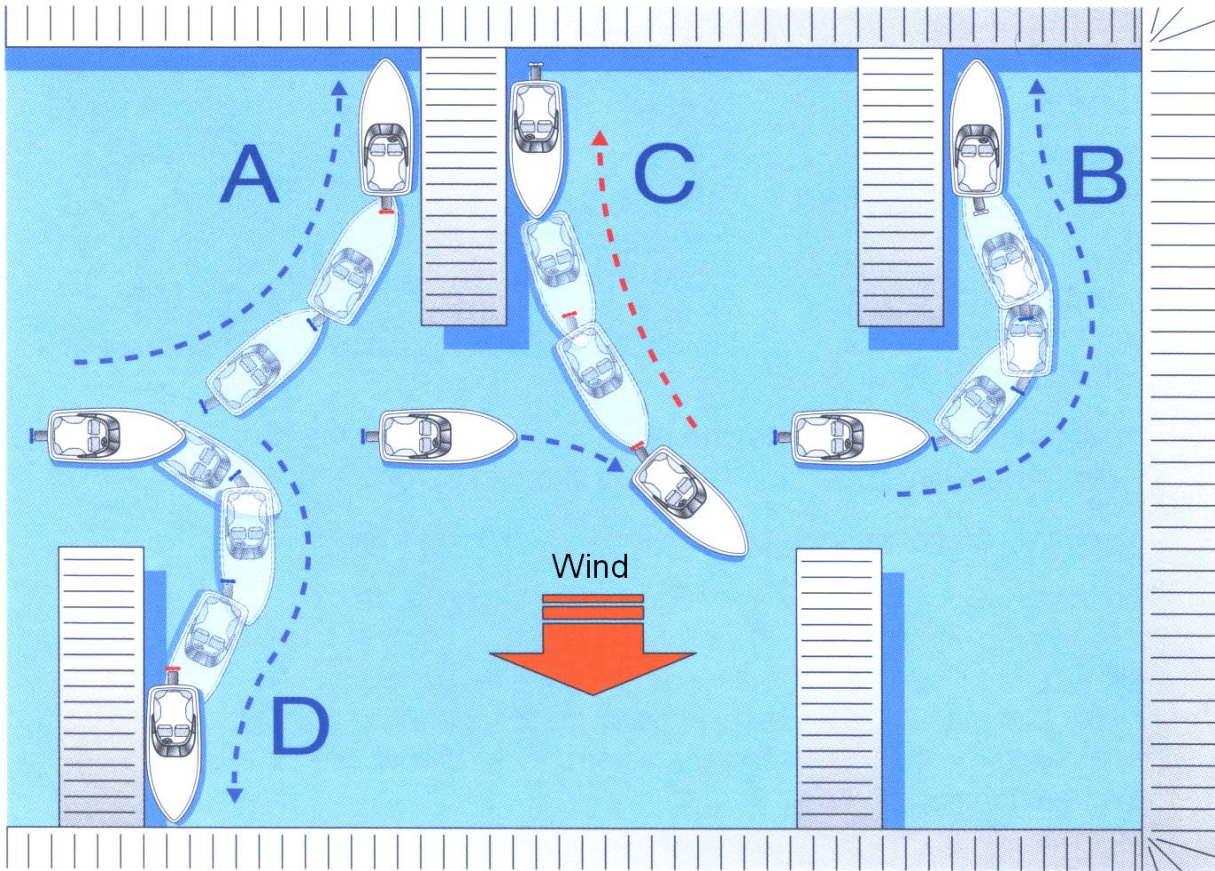

Figure 17 Returning to a Dock in a Marina
Figure 17 illustrates various methods of returning to a dock in a marina setting.
- Approach into the wind. This naturally slows the powerboat. The momentum of the boat helps it slide sideways alongside the dock (as illustrated in Example A of Figure 17).
- Slide the boat away from the dock using the turning momentum (as illustrated in Example B of Figure 17).
- As the stern aligns with the wind in astern, reverse the boat (as illustrated in Example C of Figure 17).
- Let the wind push the powerboat into the dock. Use caution and do not overshoot. Engage engines astern early (as illustrated in Example D of Figure 17).